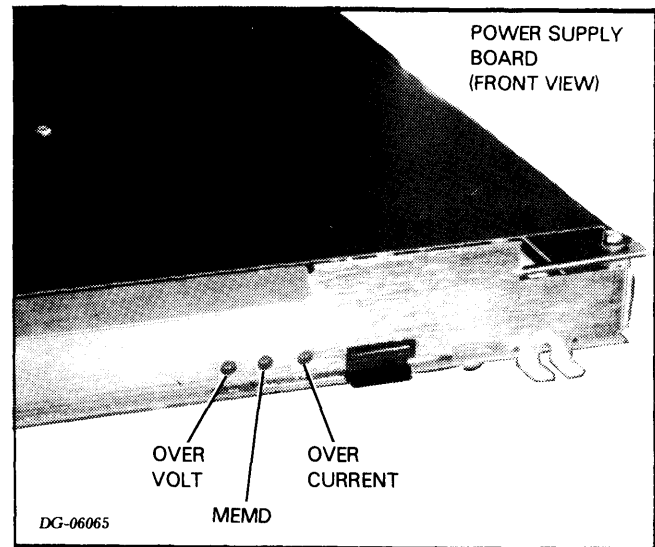

Figure 6.2 16-SLOT POWER SUPPLY BOARD INDICATOR LIGHTS
The 16-slot chassis has three additional indicator lights which give further status information. These lights are located on the front of the power supply board as shown in Figure 6.2.
2. Check the indicator lights on the front end of the power supply board (see Figure 6.2). If they are all out, go to step 3, "Voltage Checkout"; otherwise, turn the power off and then on again. If any of the lights turn on again, follow the procedure below for the lights which are on. Whenever you replace a unit, repeat this step.